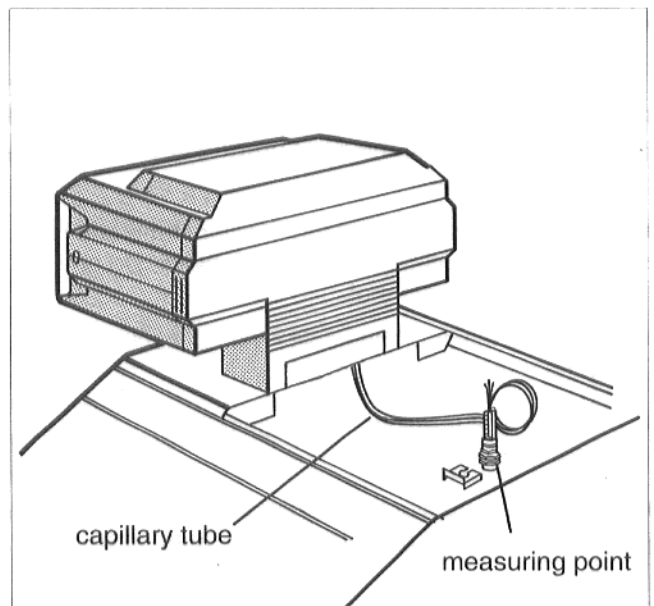

Fig. 15
- Remove the factory-installed immersion well and seal in the immersion well provided with the Ecomatic control panel into the rear boiler section (Fig. 15).
- Lay the capillary tube (Fig. 15) of the temperature sensors and the boiler water thermometer cable along the insulation of the boiler block toward the rear to the measuring point.